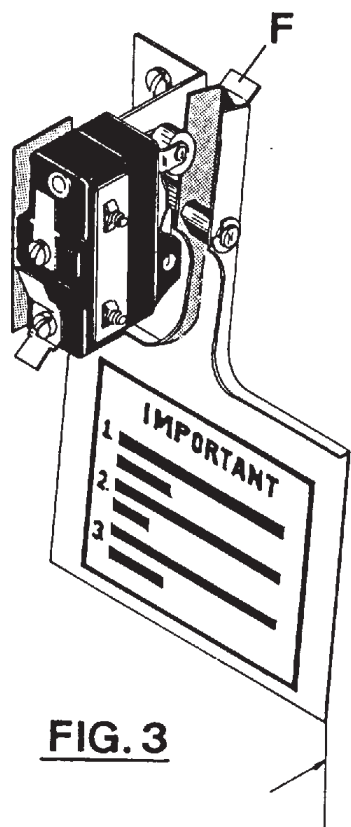

FIG. 3
4. Maximum opening of air switch must be no greater than 3/4" (20 mm) (figure 3). Bend tab "F" in or out to maintain this dimension.